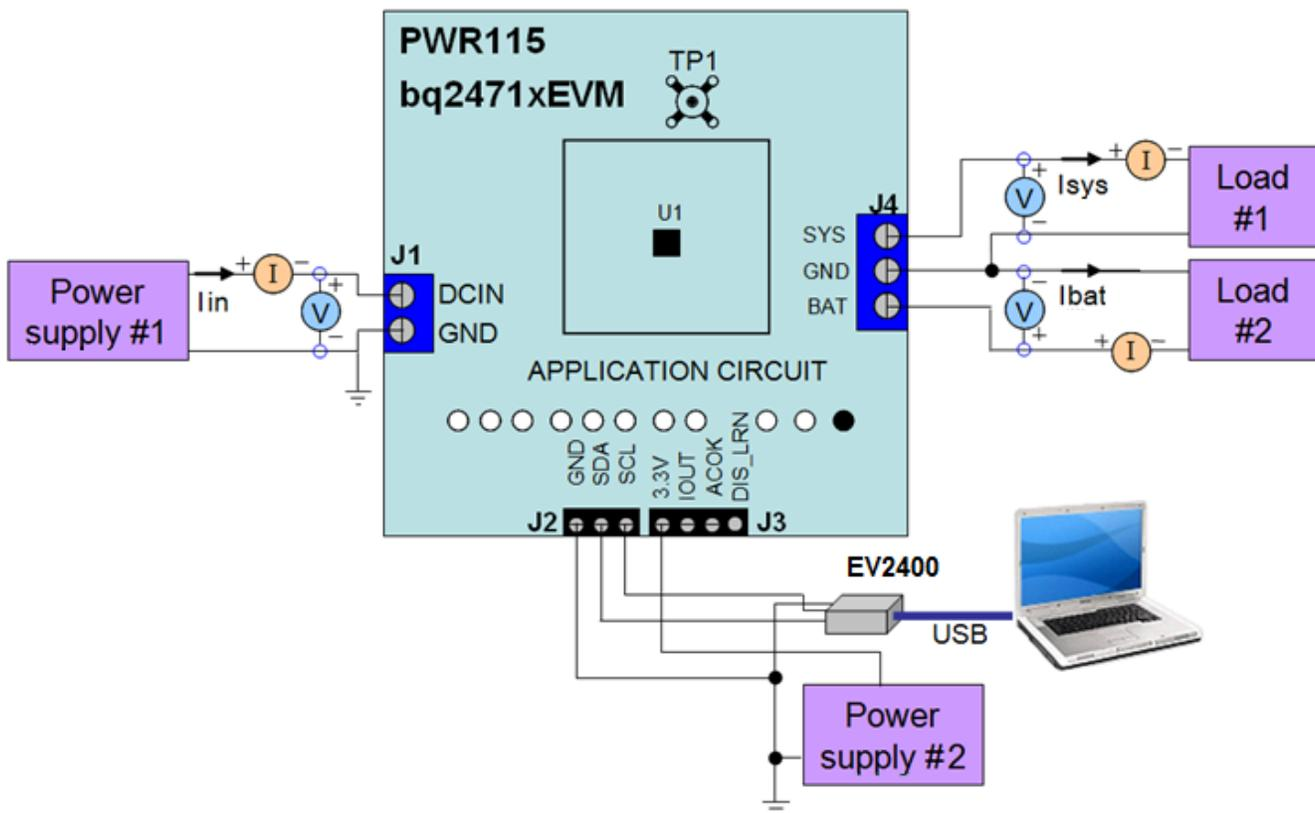

Figure 2. Original test setup for PWR115 (bq24715 EVM)
- (I) If JP1 is not installed, install the jumper.
- (J) After the steps above, the test setup for PWR115 is shown in Figure 2.